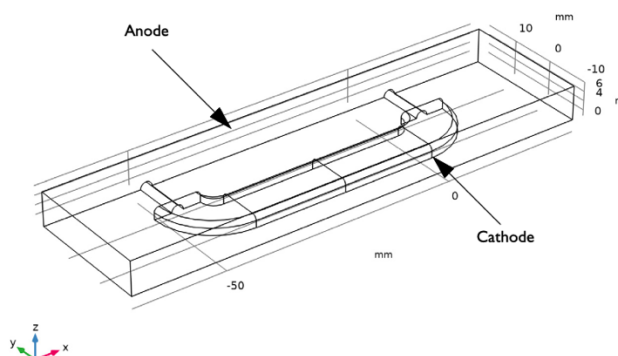

Figure 1: The model geometry.
The model geometry is shown in Figure 1. The anode is a planar dissolving anode. The cathode represents a furniture fitting that is to be decorated by metal plating.
9. What design modifications could improve plating uniformity in the system shown in Figure 1?